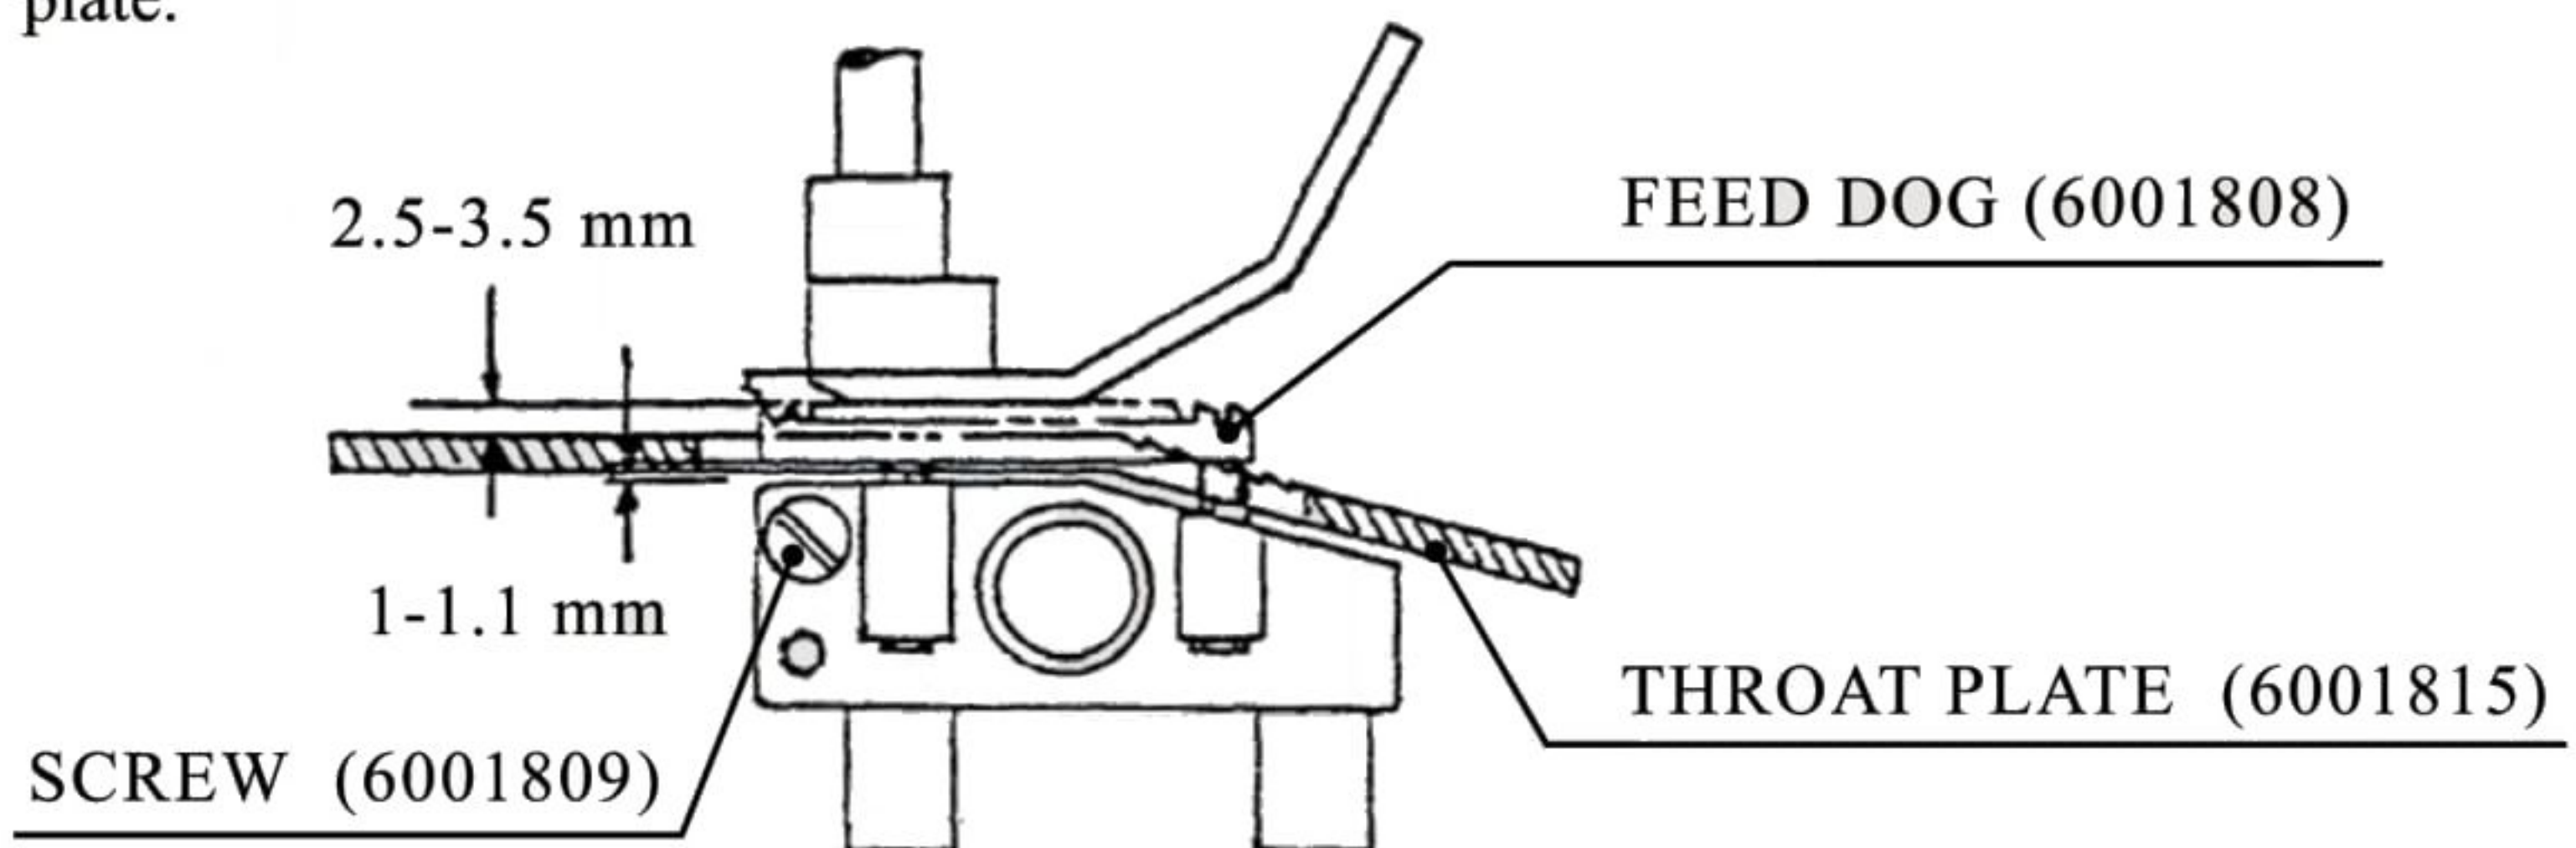

FIG. 10
D. Adjustment/Sewing distance. (Fig. 10)